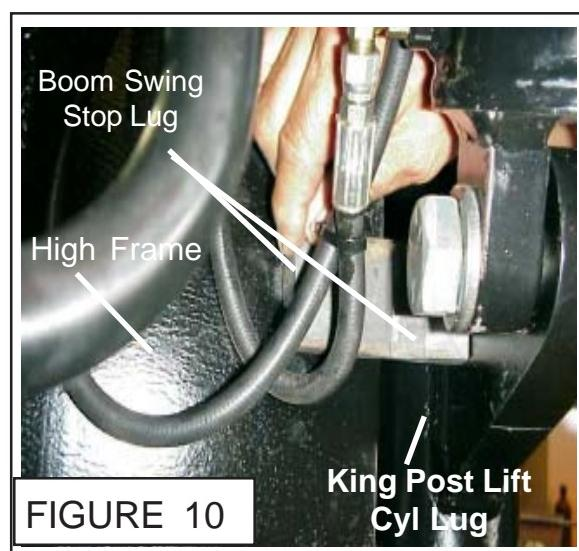

FIGURE 10
1. **Position Boom Swing Stop Lug.** Boom Swing Stop Log is used to prevent Boom from swinging back to far and hitting Cab. With Boom folded and resting on Boom Hook in Boom Rest Plate. Position the Boom Swing Stop on King Post Mount behind the Lift Cylinder Lug. (See Figure 10) This can be difficult to hold here while you tack it, it is important that it be square and touch the Cylinder lug as shown. (See Figure 10).